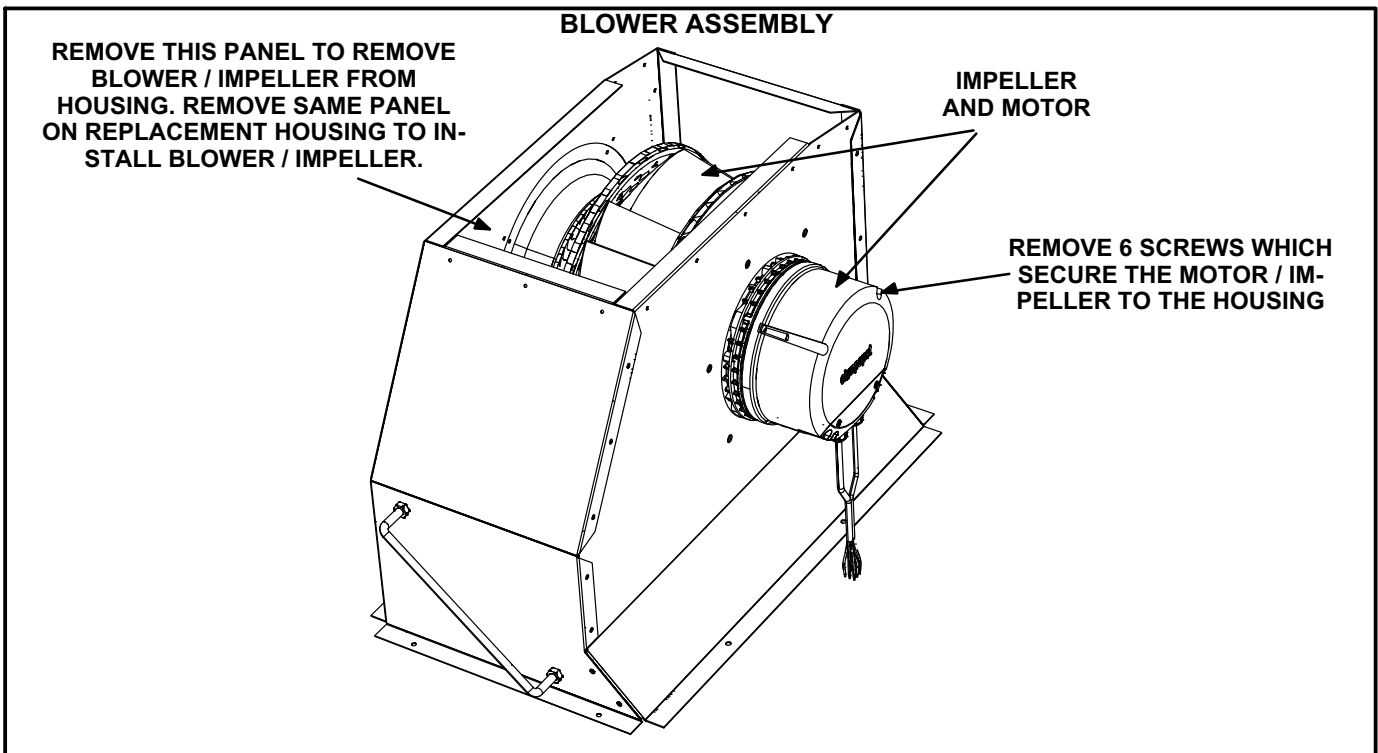

FIGURE 4
- 9- Turn the blower assembly upside down. See figure 4.